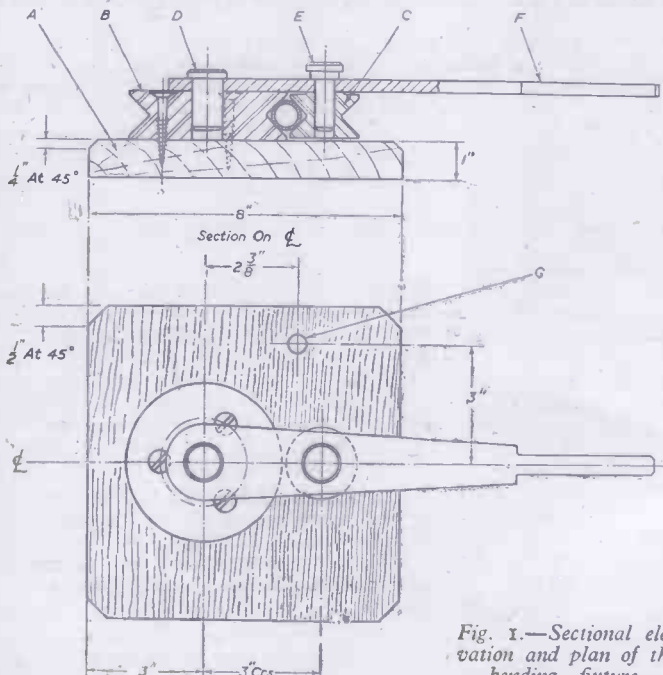

Fig. 1.—Sectional elevation and plan of the bending fixture.
The fixture shown in Fig. 1 is economically constructed and adequately suitable for making the 2in. radius bends. It will be noted that this is the mean radius, and allowance for this fact has been made in the fixture.
After the tube is bent, the removal is simply effected by extracting the pin (E) when the wheel (C) will drop away. All other necessary details and dimensions for constructing the fixture will be found in Figs. 1 and 2.